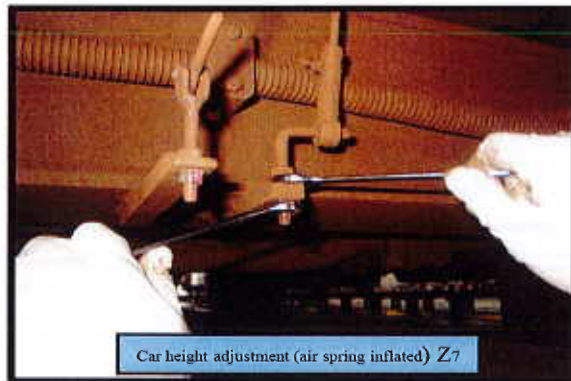

Figure 22 - Car Height Adjustment (Air Spring Inflated) Z7
- Loosen the two bolts as shown in Figure 22 (in red circles) and add or remove shim until it is within the tolerance (35mm, min. tolerance -3mm, max. tolerance +2mm)